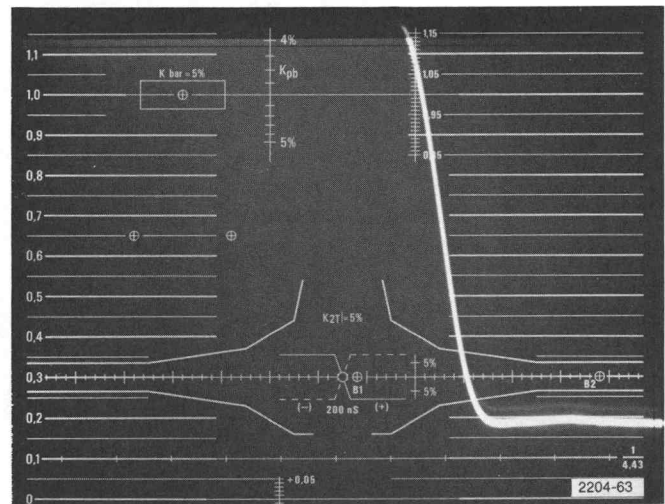

Fig. 6-16. Fall time of luminance steps.
- b. CHECK—that the falltime of the luminance steps is 100 ns, ± 10 ns. See Fig. 6-16.